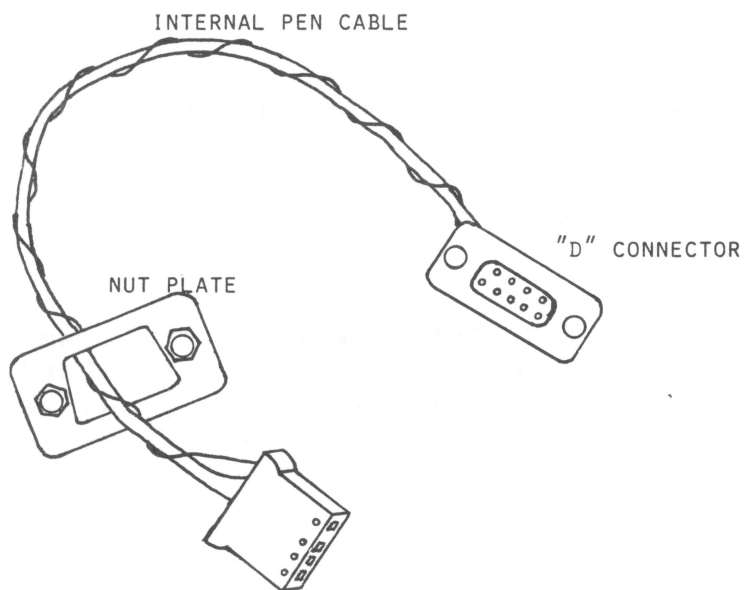

FIGURE 1
1. Find the internal pen cable and one of the nut plates (See Figure 1). This cable has a "D"-shaped connector at one end and a small slip-on connector at the other end with four holes in it. Put the slip-on connector through the nut plate, with the nuts facing away from the "D"-shaped connector.